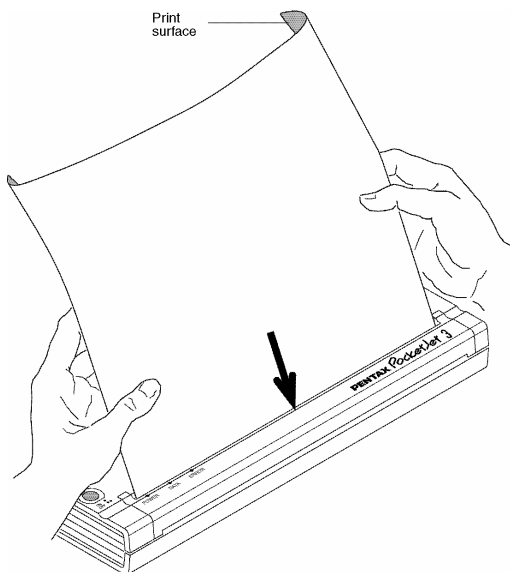

FIGURE 14. Inserting paper
2. Press the paper gently into the printer's input slot until the roller pulls it into the starting position, then let go. See Figure 14.